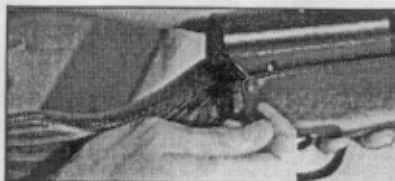

Fig. 2
Step 3: Rotate the receiver cover connecting pin upward to the vertical position (fig. 1). Pull the pin out as far as possible (fig. 2).